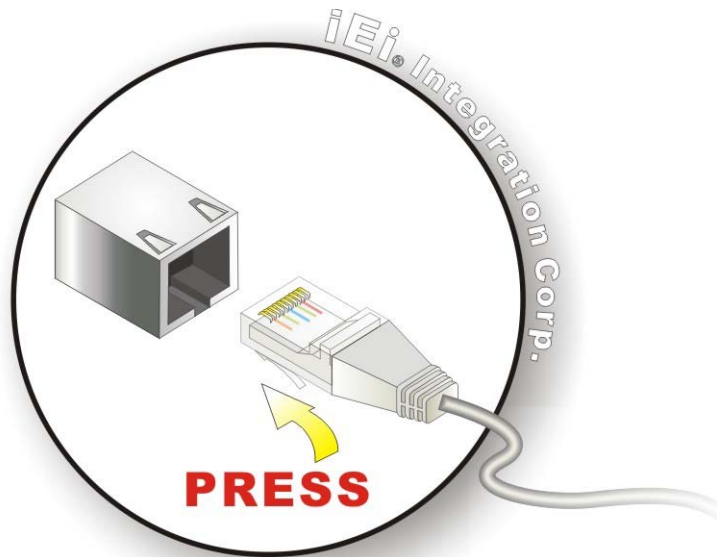

Figure 4-23: LAN Connection
Step 2: Align the connectors. Align the RJ-45 connector on the LAN cable with one of the RJ-45 connectors on the WAFER-ULT-i1. See **Figure 4-23**.